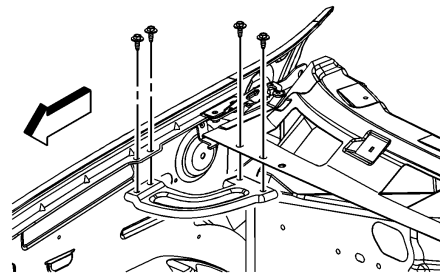

Fig. 2 Righthand front fender upper brace removal
8. Remove righthand front fender rear upper brace bolts and brace, **Fig. 2**.
3. Install righthand front fender rear upper brace and bolts, **Fig. 2**. **Torque** bolts to 80 inch lbs.